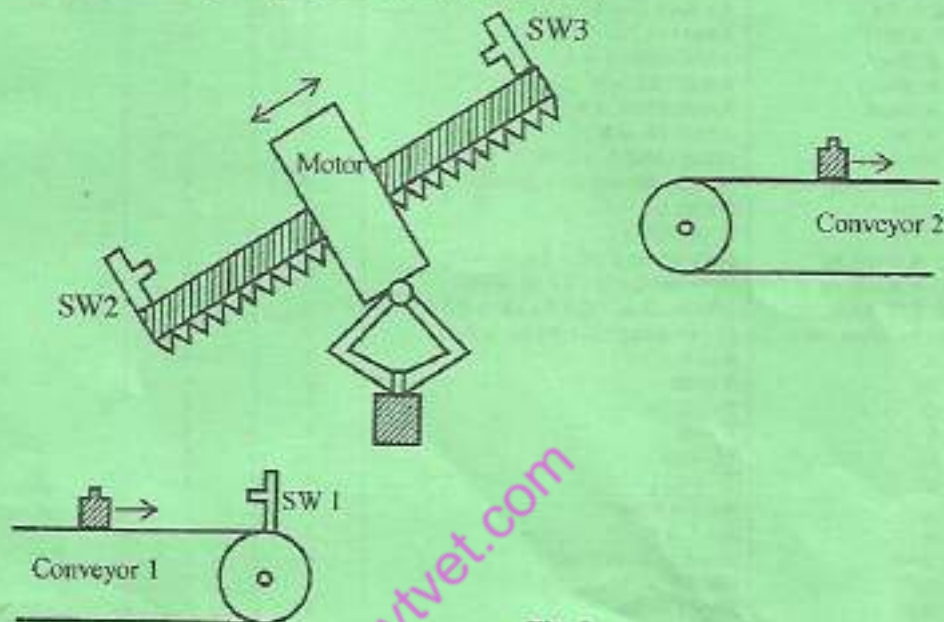

Fig. 3
- (d) Figure 3 shows a diagram of a PLC-controlled pick and place robot that picks up parts from one conveyer belt and places them on another belt. When a part moving on the lower conveyer belt activates switch 1, the motor turns in anticlockwise direction to move the gripper to the pick-up position. When the gripper reaches switch 2, the motor stops and the solenoid powered gripper clamps on the part. After 2 seconds, the motor turns in the clockwise direction to move the gripper to the drop-point. When the gripper reaches switch 3, the gripper's solenoid is de-energized to drop the part onto conveyer 2.